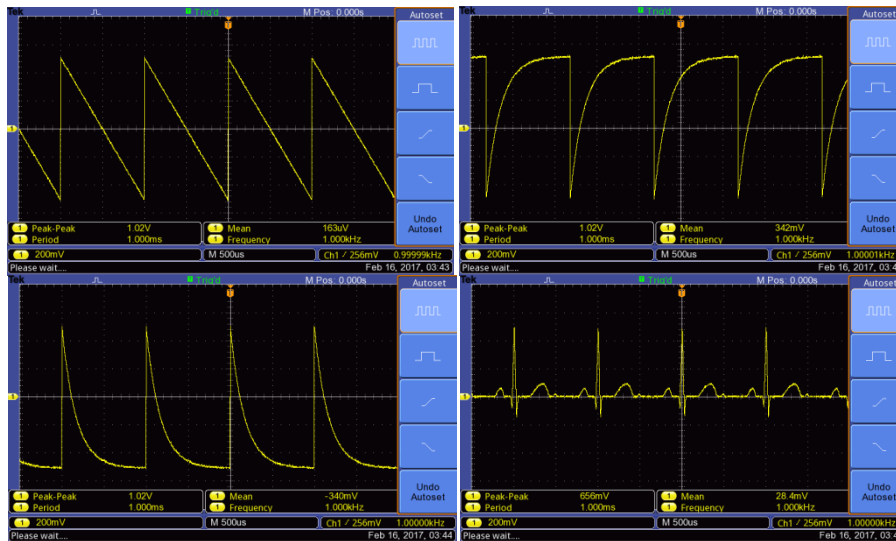

Figure 4:
3. To access the entire list of arbitrary waveforms press **Shift -> Arb List**. Then use the right or left arrow keys to scroll through the arbitrary list. Select **NEG_RAMP** and press the **Enter** button. Repeat this step to view the other arbitrary waveforms. See Figure 4.